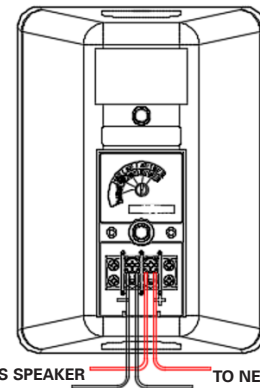

Figure 6
3. Continue wiring one speaker to the next until they are all connected. Figure 6